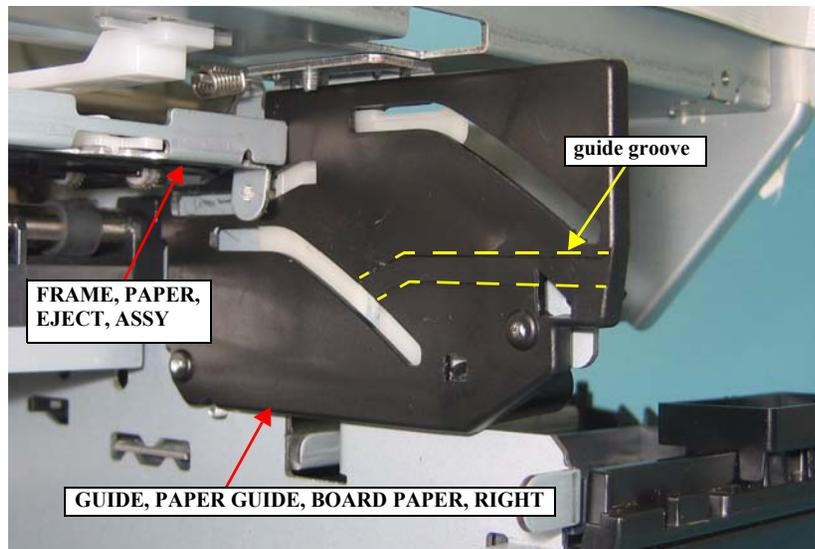
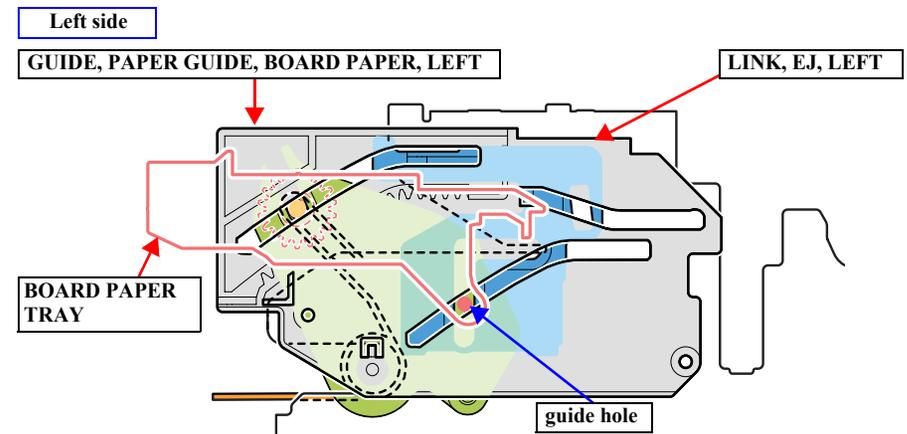
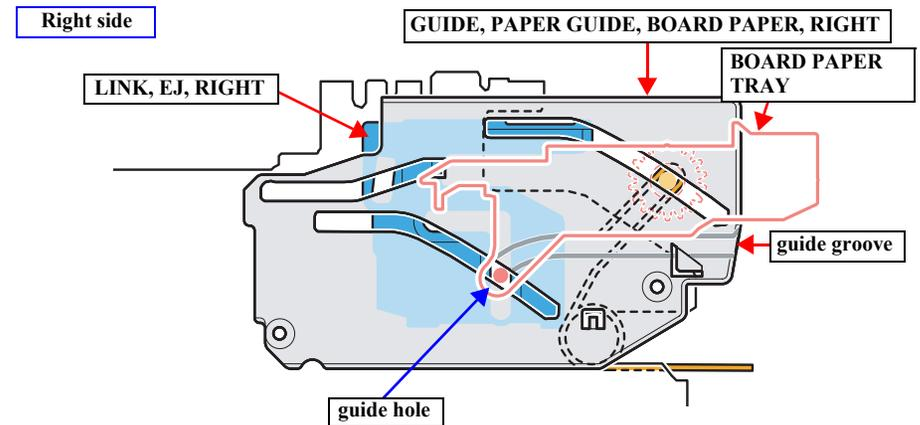

Figure 4-65. Inserting the Right Pivot
Figure 4-66. Guide holes of the LINK, EJ, LEFT and GUIDE, PAPER GUIDE, BOARD PAPER, LEFT
Figure 4-67. Guide holes of the LINK, EJ, RIGHT and GUIDE, PAPER GUIDE, BOARD PAPER, RIGHT
1. Slide the FRAME, PAPER, EJECT, ASSY back and forth until the guide holes of the LINK, EJ, LEFT/RIGHT and GUIDE, PAPER GUIDE, BOARD PAPER, LEFT/RIGHT come in the positions shown in the *Figure 4-66* and *Figure 4-67*.
2. Put the pivot of the left of the BOARD PAPER TRAY into the guide holes of the LINK, EJ, LEFT and GUIDE, PAPER GUIDE, BOARD PAPER, LEFT shown in the *Figure 4-66*.
3. Slide the right pivot of the BOARD PAPER TRAY along the guide groove of the GUIDE, PAPER GUIDE, BOARD PAPER, RIGHT shown in the *Figure 4-65*, and put the pivot into the guide holes of the LINK, EJ, RIGHT and GUIDE, PAPER GUIDE, BOARD PAPER, RIGHT shown in the *Figure 4-67*.